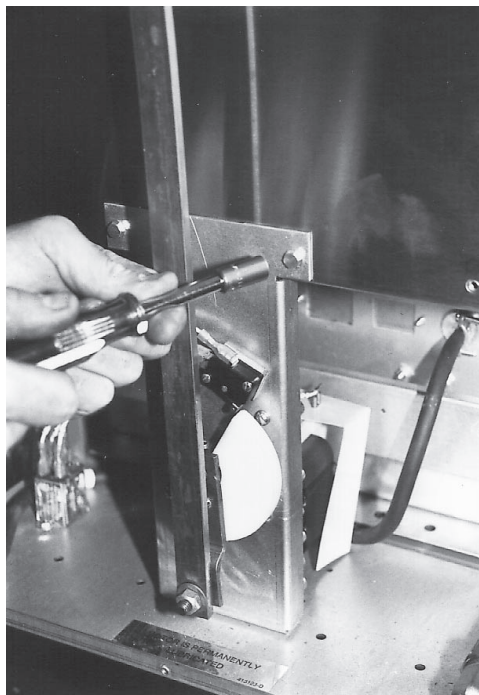

Fig. 61
4. With 5/16" socket remove (2) nut holding the cam lift bracket to the fryer back. (Fig. 61)